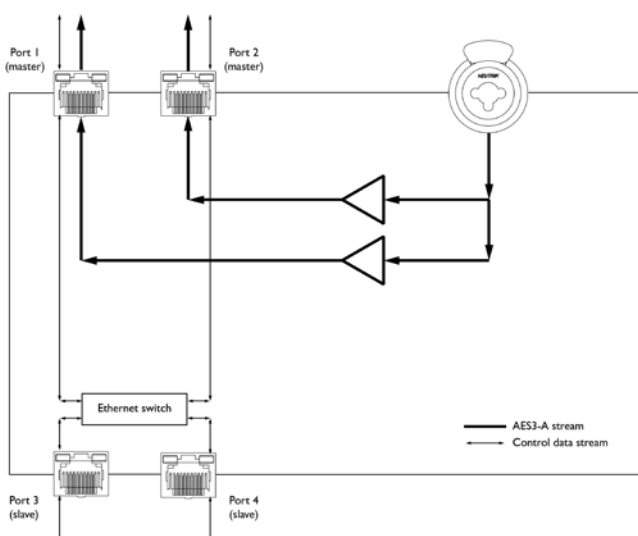

FIGURE 11: Forward to AES3-A signal path. No AES3-B stream present
- Forward to AES3-A: the XLR AES input of the amplifier will be routed to the AES stream A on both primary ports. If there is an AES3-B stream coming from either primary ports (1 or 2), this will be repeated on the other primary port. For example, FIGURE 11 shows the "Forward to AES3-A" function when the XLR AES3 stream is sent to the AES3-A with no AES3-B stream is present.